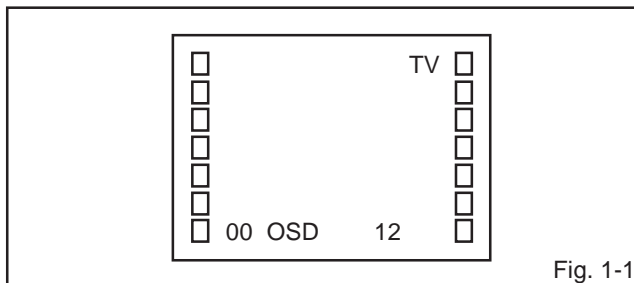

Fig. 1-1
1. In the condition of NO indication on the screen. Press the VOL. DOWN button on the set and the Channel button (**9**) on the remote control for more than 1 second to appear the adjustment mode on the screen as shown in **Fig. 1-1**.
3. Activate the adjustment mode display of **Fig. 1-1** and press the channel button (**01**) on the remote control to select "CUT OFF".
4. Activate the adjustment mode display of **Fig. 1-1** and press the channel button (**10**) on the remote control to select "R.BIAS".
2. Activate the adjustment mode display of **Fig. 1-1** and press the channel button (**06**) on the remote control to select "V.SIZE".
1. Activate the adjustment mode display of **Fig. 1-1**.
3. Activate the adjustment mode display of **Fig. 1-1** and press the channel button **(13)** on the remote control to select "BRI.CENT".
3. Activate the adjustment mode display of **Fig. 1-1** and press the channel button **(17)** on the remote control to select "CONT MAX".
2. Activate the adjustment mode display of **Fig. 1-1** and press the channel button **(05)** on the remote control to select "H.PHAS".
3. Activate the adjustment mode display of **Fig. 1-1** and press the channel button **(22)** on the remote control to select "TINT".
6. Activate the adjustment mode display of **Fig. 1-1** and press the channel button **(19)** on the remote control to select "COL.CENT".
11. Activate the adjustment mode display of **Fig. 1-1** and press the channel button **(22)** on the remote control to select "TINT".